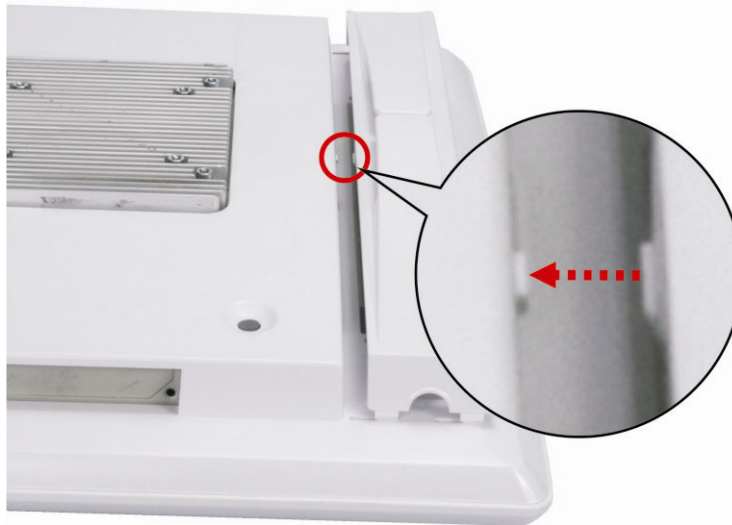

Figure 3-25: Aligning the Tab on the Bottom Panel
Step 1: Align the slot on the rear of the cable cover with the tab on the bottom panel of the POC-17C-ULT3 (**Figure 3-25**). Then, attach the slot to the tab.